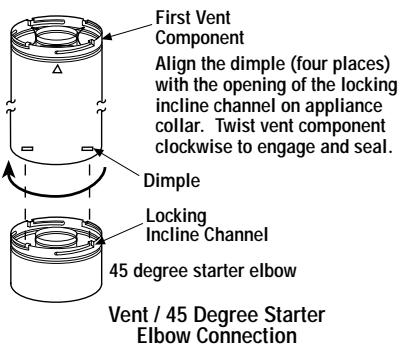

Figure 15
D. Attach vent components to 45 degree starter elbow - Secure Vent SV4.5 direct vent system components are unitized concentric pipe components featuring positive twist lock connections (see **Figure 15**).
To attach a vent component to the 45 degree starter elbow, align the dimpled end over the elbow, adjusting the radial alignment until the four locking dimples are aligned with the inlet of the four inclined channels on the collar (refer to **Figure 15**).
Secure Vent SV4.5 direct vent system components are unitized concentric pipe components featuring positive twist lock connection, (refer to **Figure 15 and 16** on page 12). All of the appliances covered in this document are fitted with collars having locking inclined channels. The dimpled end of the vent components fit over the appliance collar to create the positive twist lock connection.
F. Attach vent components to starter elbow - To attach a vent component to the the starter elbow, align the dimpled end over the collar, adjusting the radial alignment until the four locking dimples are aligned with the inlets of the four incline channels on the collar (refer to *Figure 15* on page 12).